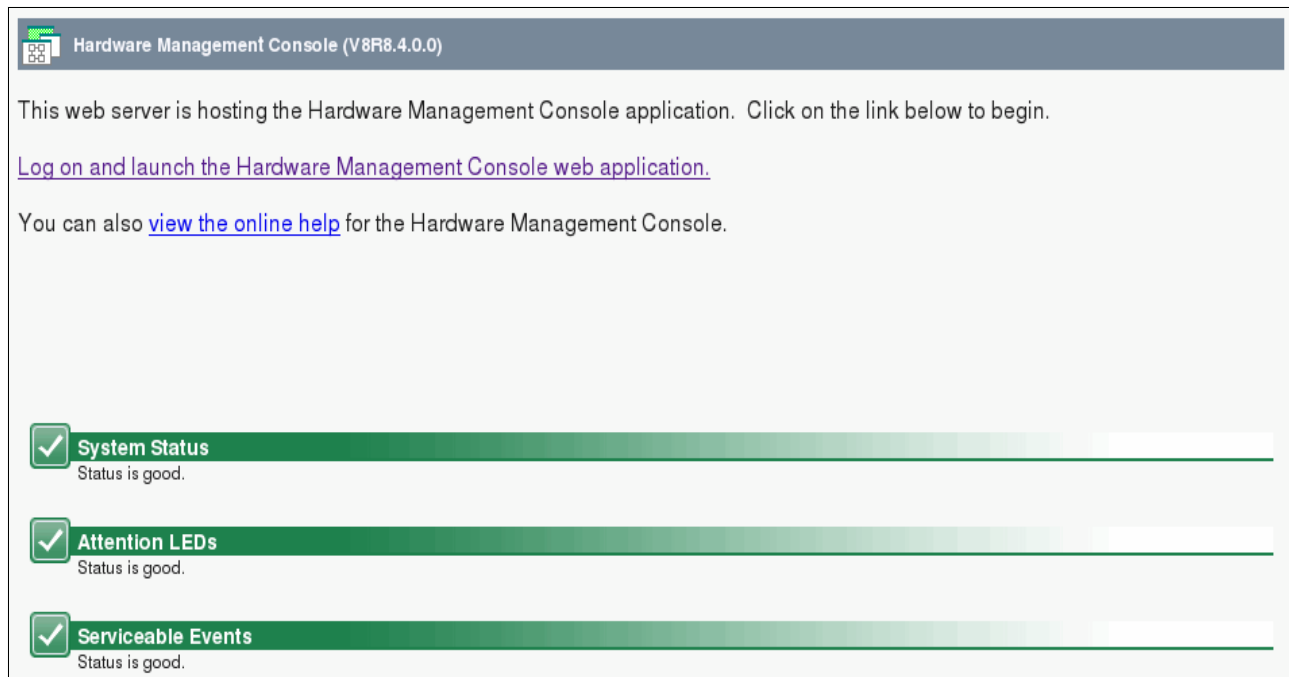

Figure 3-107 HMC first logon panel
36. After a moment, the HMC restarts its processes, and opens the Welcome panel (Figure 3-107). You can now log on.